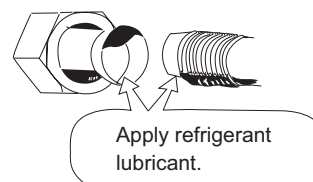

Fig. 2-280
- (1) Apply a sealing cap or water-proof tape to prevent dust or water from entering the tubes before they are used.
- (2) Be sure to apply refrigerant lubricant (ether oil) to the inside of the flare nut before making piping connections. This is effective for reducing gas leaks. (Fig. 2-280)